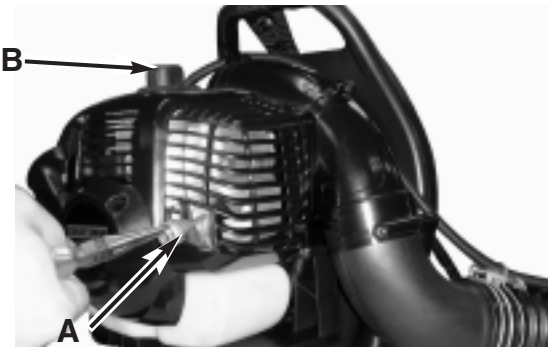

Fig. 26
1. To remove spark plug (B) (Fig. 26) for cleaning or replacement: make sure engine is off, spark plug is cool, then grasp spark plug boot firmly and remove from spark plug. Remove spark plug with correct spark plug tool. Inspect, clean or replace as needed.
1. To replace spark arrestor screen/collar assembly (A) (Figure 26), use a needle nose pliers and pinch an edge of the collar. Pull out the whole spark arrestor screen assembly.